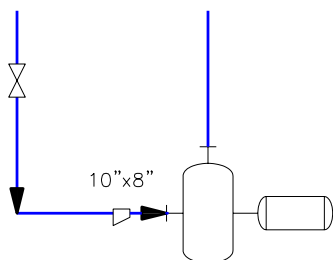

Figure 2-73 Modified size of a line
4. Modify the size of the line to 8" and choose the **Assign** button from the dialog box, refer to Figure 2-73.